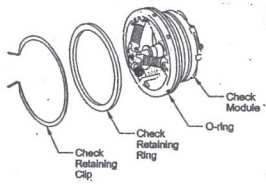

Figure 3
3. Remove the check-retaining clip by pinching the clip ears together. This will disengage the clip from its groove. Remove clip and check-retaining ring. Pull check module straight out of body. The check module is sealed in place with an O-ring. See Figure 3.